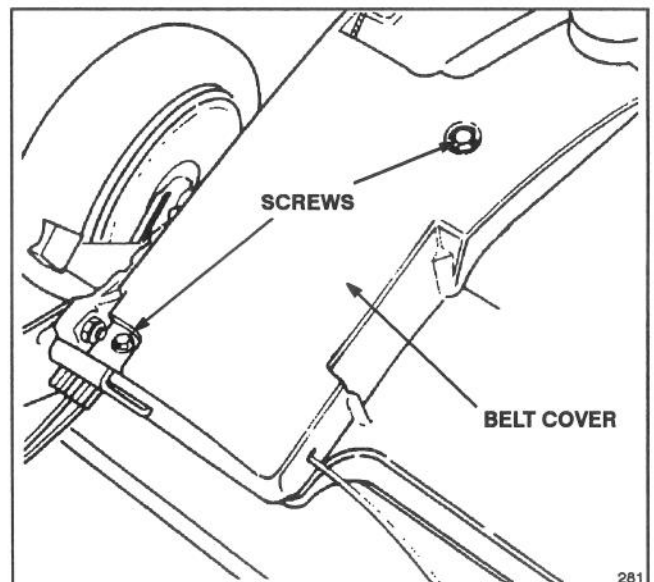

Figure 5
6. Remove screws securing belt cover (Fig. 5) to mower housing. Lift off cover and brush out all debris from belt area. Reinstall belt cover.